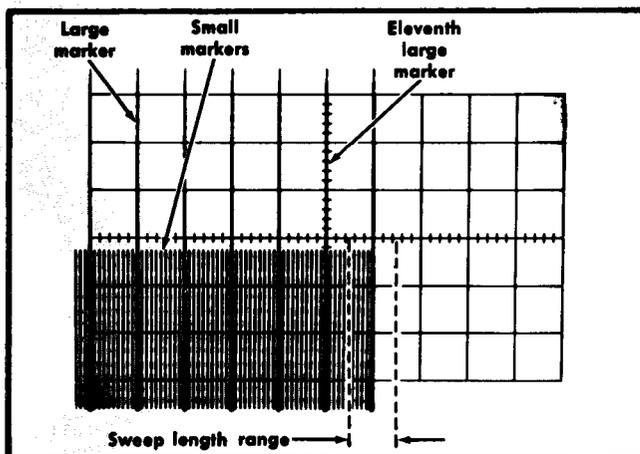

Fig. 5-22. Typical CRT display when checking A and B sweep length.
- c. Move the eleventh marker to the center vertical line with the horizontal POSITION control (see Fig. 5-22). Large markers indicate divisions and small markers indicate 0.1 division.
- d. CHECK-A sweep length must be between 10.5 and 11.5 divisions as shown by 0.5 to 1.5 divisions of display to the right of the center vertical line (see Fig. 5-22).
- q. Move the eleventh large marker to the center vertical line with the horizontal POSITION control (see Fig. 5-22).
- d. CHECK-B sweep length must be between 10.5 and 11.5 divisions as shown by 0.5 to 1.5 divisions of display to the right of the center vertical line (see Fig. 5-22).